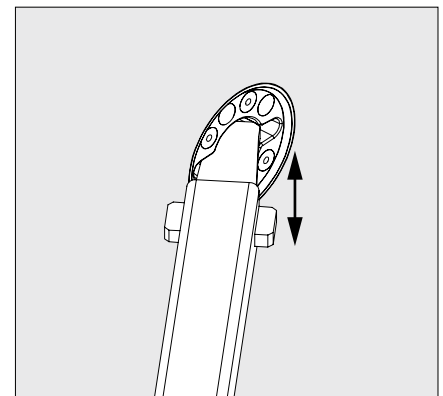

Fig. A13.04b
3. Insert spanner lug (43.1) into the guide groove of the Magnet Cone from the left, and clean the slot. (Fig. A13.04b)